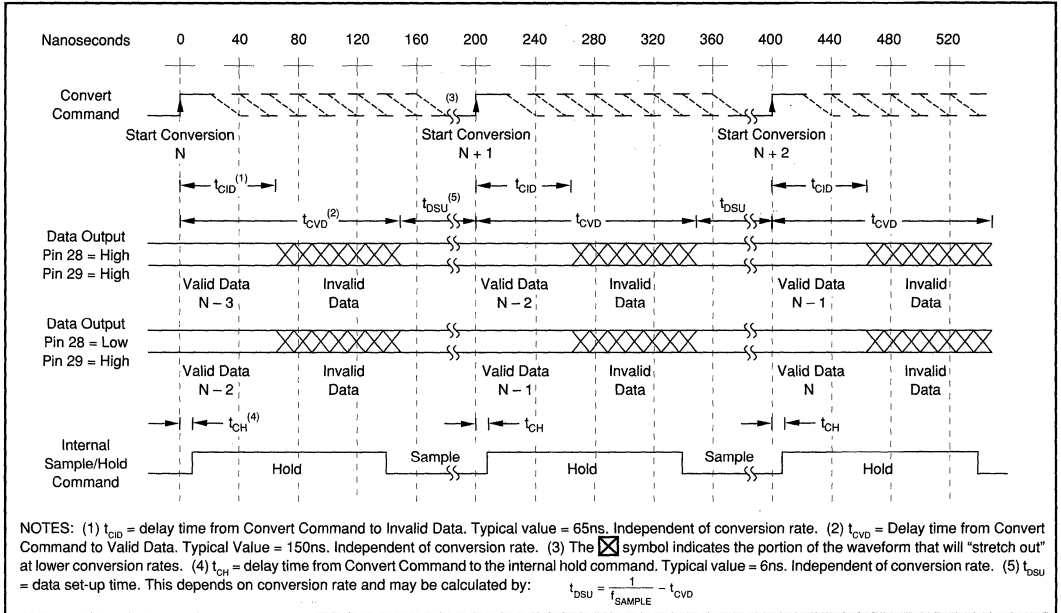

FIGURE 12. Convert Command Strobe Timing for a 5MHz Conversion Rate.
The ADC614 generates all necessary timing signals internally. Only timing between Convert Command, Output Data, and Data Valid must be considered. Proper timing is shown in Figures 12 and 13. There are two methods for reading output data, offering three selectable levels of data pipeline delay as described below:
(I) Convert Command timing option (pin 29 = HIGH)—With this option, the Convert Command signal is used both for initiating a new conversion and for reading valid data from a previous conversion. This method is most useful in synchronous systems where data samples are taken continuously. See Figure 12 for timing relationships.